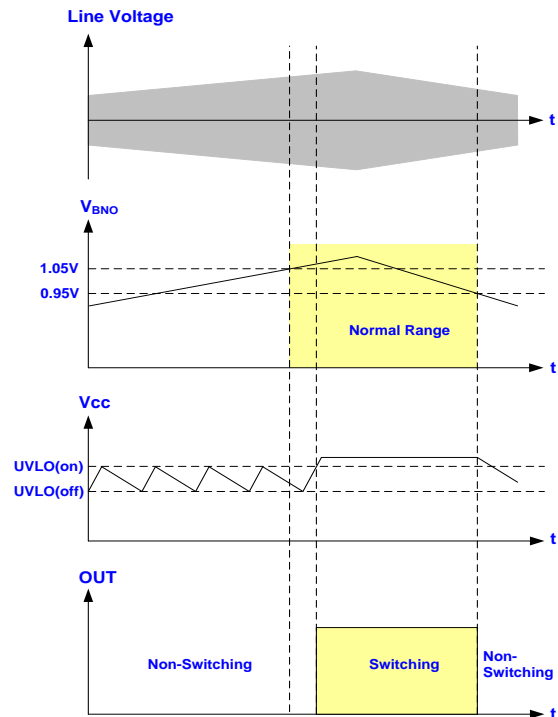

Fig. 19
The LD5537E1 is programmable to set the brownout protection point through BNO pin. The voltage across the BNO pin is proportional to bridge rectifier of AC input. A brownout comparator is implemented to detect the abnormal line condition. As soon as the condition is detected, it will shut down the controller to prevent the damage. Fig. 19 shows the operation. When VBNO falls below 0.95V, the gate output will remain off even VCC has already achieved UVLO(ON). It therefore makes VCC hiccup between UVLO(ON) and UVLO(OFF). Unless the